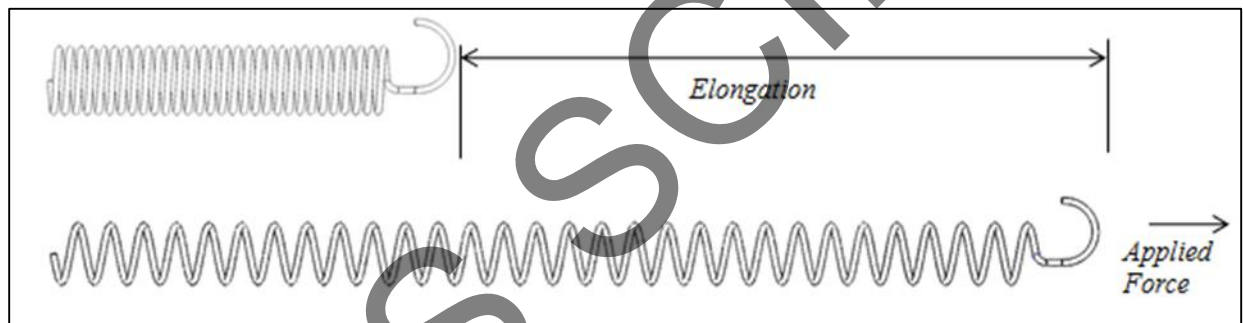

Figure 1- Spring Stretched with Applied Load
The stiffness of a spring (K) is defined as the ratio of the load applied to the spring and the resulting elongation of the spring as is written in Equation #1. A spring with an applied load " F " is elongated a distance " L " as shown in Figure 1. This is usually expressed as a rate such as pounds per inch (lbs/in) or Newtons per millimeter (N/mm).